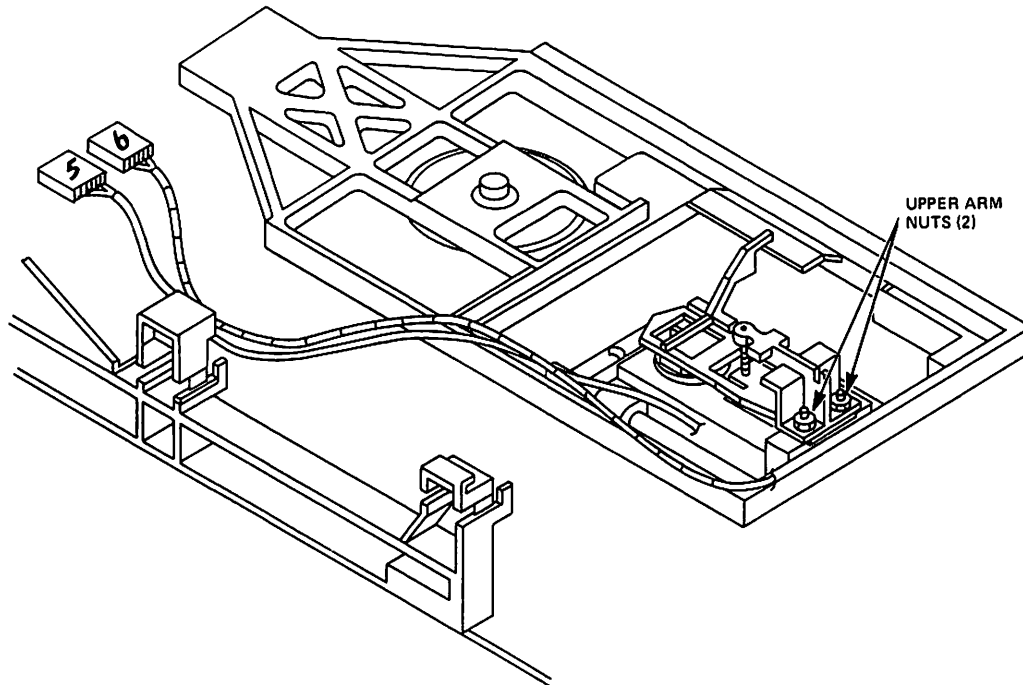

Figure 5-26
5.13.3 Using a three-sixteenth (3/16) inch thin wall nut driver, remove the two (2) nuts that attach the upper arm and spring retainer to the Carriage Assembly (see Figure 5-26).